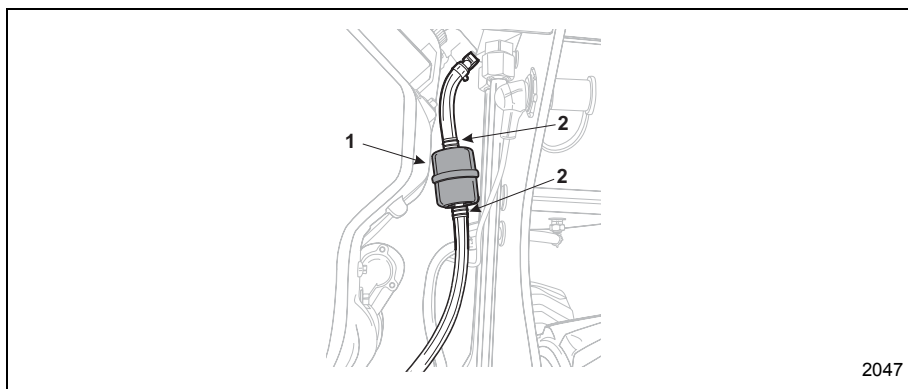

Figure 4-27 Fuel Filter
5. Remove the spring clamps (Items 2, Figure 4-27) from above and below the fuel filter and remove the fuel lines.